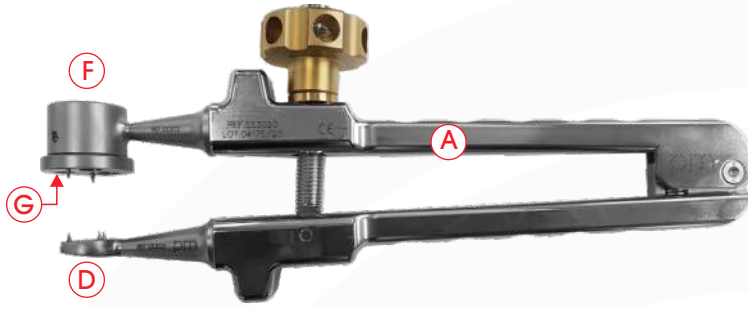

Fig. 5
The **Modular Drill Guide (F)** is equipped with the corresponding size **Drill Guide Ring (G)**, which reproduces the effective diameter of the component allowing its proper centering (**Fig. 5**).